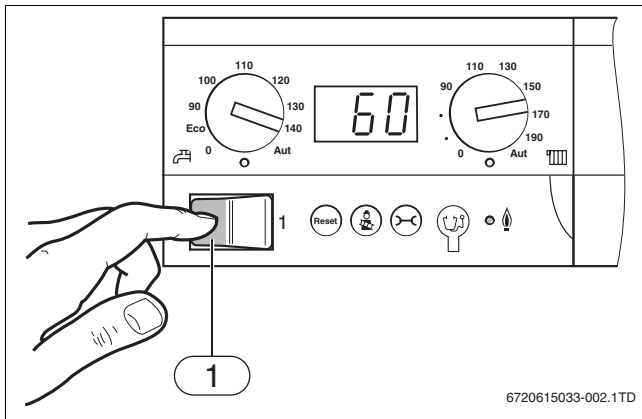

Fig. 1 Mains switch
- ▶ Switch off the heating system using the main switch (→ fig. 1, [1]).
- ▶ Switch on the heating system by setting the main switch to position "1" (→ fig. 1, page 5).
- Switch OFF the appliance by pressing the main switch of the BC10 basic controller (fig. 1, [1], page 5).